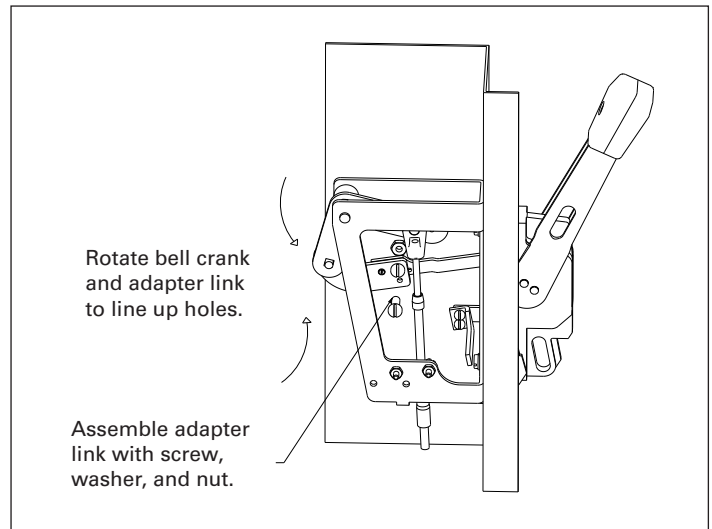

Figure 7. Assembly of the adapter link to the actuator link.
5. Rotate the bell crank towards the handle and rotate the handle to the "On" position. Align the adapter link and attach it to the actuator link using the 1/4-20 pan head screw and nut (see Figure 7).